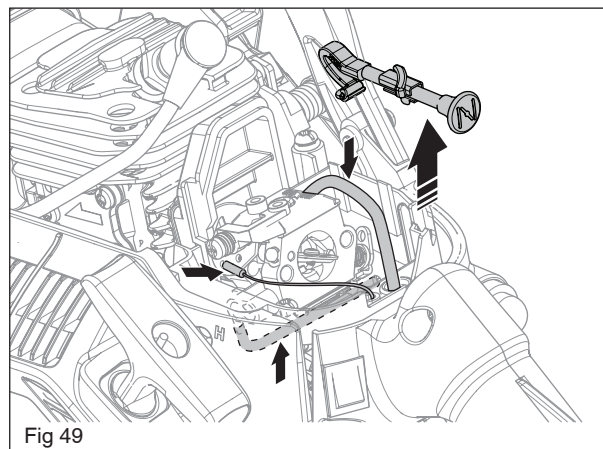

Fig 49
3. Detach the two hoses and the throttle wire, marked in figure 49.
4. Fit the two hoses and the throttle wire. See figure 49.